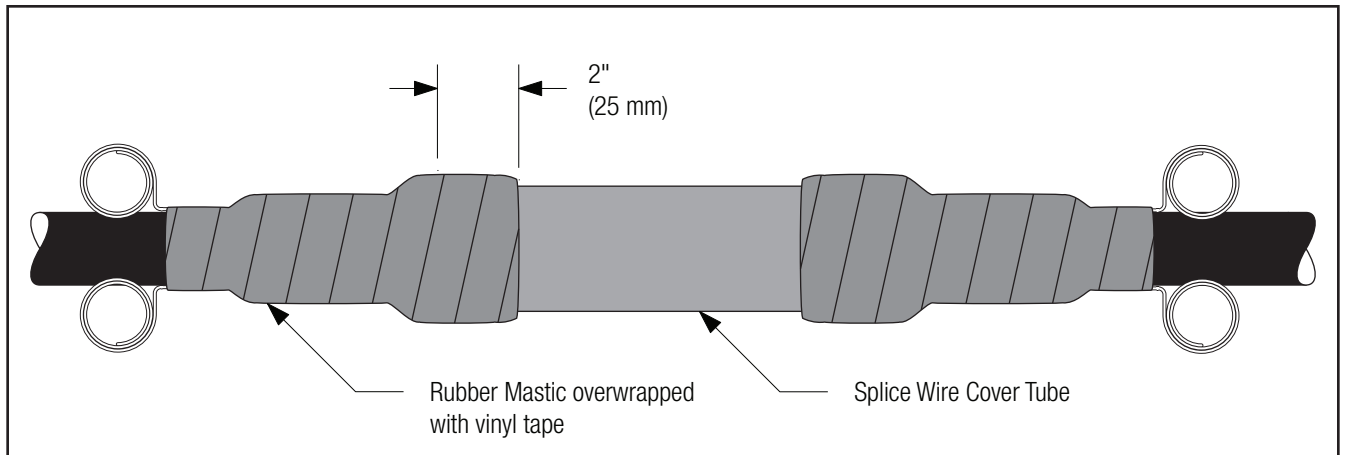

Figure 16
6.1 To further enhance protection of splice body from physical damage cover the splice body end seals with Scotch® Rubber Mastic Tape 2228 (not supplied with kit). Beginning 2" (25 mm) on splice wire cover tube apply one half-lapped layer onto the cable semi-con (*Figure 16*).